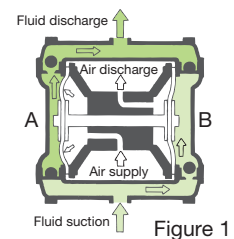

Figure 1
- Compressed air entering the air chamber on side A in Figure 1 pushes the diaphragm to the left, pushing out the fluid.